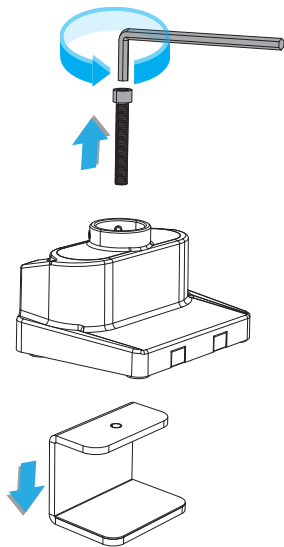

Figure 3
1. Use the **6mm Hex Key** to remove the **Hex Screw** and **Bottom Clamp** from the **Desk Clamp**. (Figure 3)